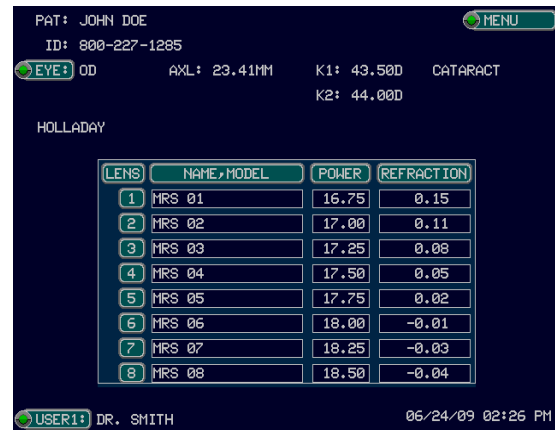

Figure 3-14 Lens Review Screen Display
Touching [USER#], will cause the User Data Screen to be displayed. Pressing [LENS DATA] will allow the Lens Review Screen to be displayed. This screen allows the user to view and edit the six (8) lens names or models with the corresponding I.O.L. powers and refractions associated with it (See Figure 3-14).